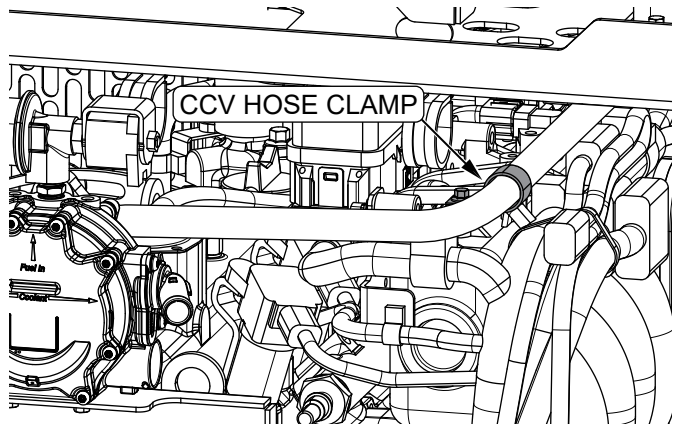

Figure 4. Loosen CCV Hose Clamp
3. Loosen (but do not remove) the **CCV hose clamp** (Figure 4).